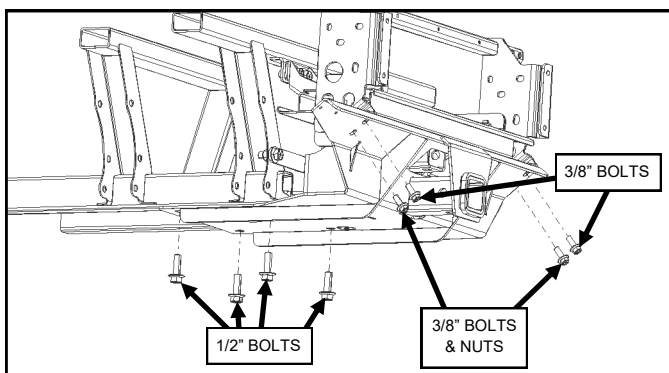

Fig. 2.4 (Plow Mount, Front & Skid Plate Bolts)
- 2.4 Install (4) 3/8" bolts and (2) 3/8" lock nuts per figure 2.4. Leave loose.
- 2.5 Install (4) 1/2" X 1-1/2" bolts into the previously installed anchor strips installed into the vehicle's frame per figure 2.4. Leave loose.